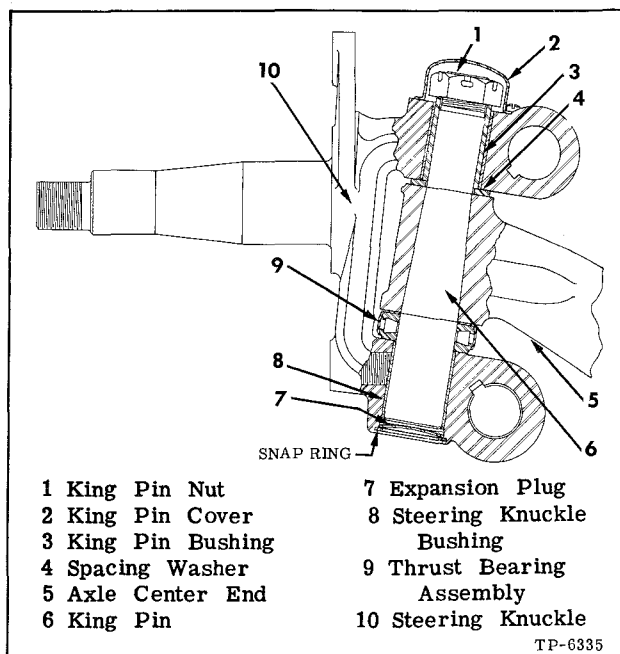

Figure 2—Steering Knuckle Cross Section
Front axle assembly is reverse Elliott type. Axles are equipped with steering knuckles constructed as shown in figure 2.
Steering knuckles (fig. 2) are supported on solid king pins which are tapered at center section to fit snugly in tapered holes in axle outer ends. Nut installed at threaded upper end of each king pin, locks king pin bushing (3) against spacer (4) and secures king pin in axle. King pin nuts are secured by cotter pins.
Load is transmitted from axle center to steering knuckles through tapered roller thrust bearing assemblies (9, fig. 2). Covers and plugs (2 and 9, fig. 2) exclude dust and moisture from knuckle bushings and serve as lubricant seals. Steering knuckle bushings can be replaced when necessary.
steering knuckles to determine if excessive up-and-down movement of knuckles on king pins exists. Since excessive pounding will damage thrust bearing (9, fig. 2) the up-and-down movement of steering knuckles must be kept within prescribed limits. Shims for use in reducing clearance are available. Refer to "ADJUSTMENTS" later in section for method of checking clearance and making shim installation.